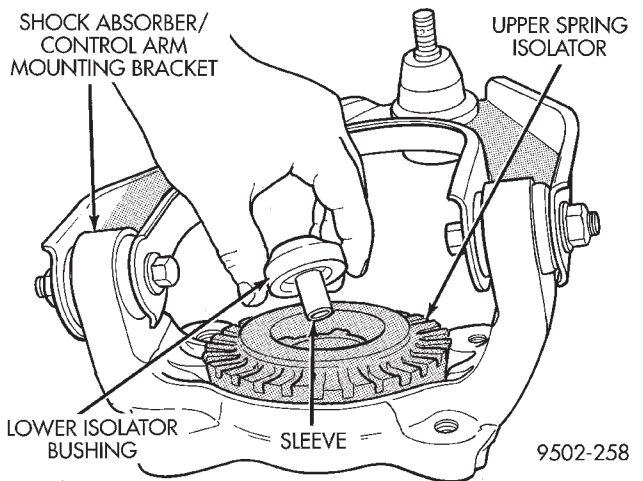

Fig. 91 Shock Absorber Rod Lower Isolator Bushing And Sleeve
(8) Remove the shock absorber rod lower isolator bushing and sleeve, (Fig. 91) from the shock absorber/upper control arm mounting bracket. Remove upper spring isolator from mounting bracket.
(7) Install the lower isolator bushing and sleeve (Fig. 91) in the shock absorber/upper control arm mounting bracket. Install coil spring upper isolator in mounting bracket (Fig. 91).